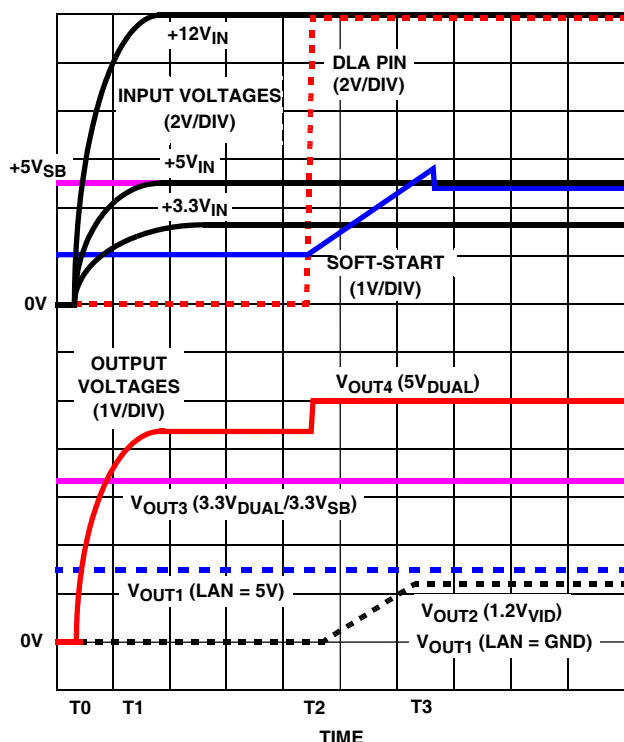

FIGURE 9. SOFT-START INTERVAL IN ACTIVE STATE
3.3V_{DUAL}/3.3V_{SB} and V_{OUT1} outputs will come up right after bias voltage surpasses POR level (but if LAN = GND, then V_{OUT1} output will not come up until the soft-start ramp, along with V_{OUT2}; see Figure 9).
During sleep-to-active state transitions from conditions where the 5V_{DUAL} output is initially GND (such as S5 to S0 transition, or simple power-up sequence directly into active state), the circuit goes through a quasi soft-start, the 5V_{DUAL} output being pulled high through the body diode of the NMOS FET connected between it and the 5V ATX. Figure 9 exemplifies this start-up case. 5V_{SB} is already present when the main ATX outputs are turned on, at time T0. As a result of +5V_{IN} ramping up, the 5V_{DUAL} output capacitors charge up through the body diode of Q5 (see Typical Application). At time T1, all main ATX outputs exceed the ISL6505's undervoltage thresholds, and the internal 50ms (typical) timer is initiated. At T2, the time-out initiates a soft-start, and the 1.2V voltage ID output is ramped-up, reaching regulation limits at time T3. Simultaneous with the beginning of this ramp-up, at time T2, the DLA pin is released, allowing the pull-up resistor to turn on Q3 and Q5, and bring the 5V_{DUAL} output in regulation. Shortly after time T3, as the SS voltage reaches 3.0V, the soft-start capacitor is quickly discharged down to approximately 2.7V, where it remains until a valid sleep state request is received from the system.